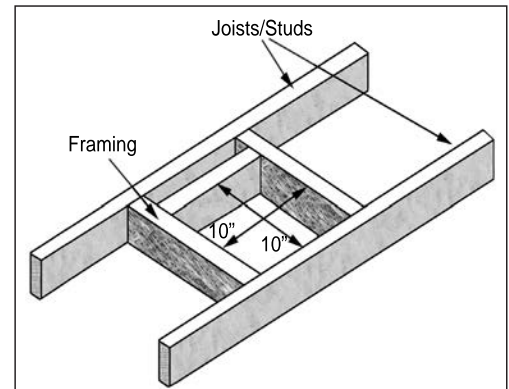

Figure 31. Vent Framing For Wall or Ceiling
A **10" (254 mm) x 10" (254 mm)** frame (see Figure 31) will assure the proper support and spacing for the vent pipe as it passes through the wall. Installations in Canada require that a wall thimble be used for passing through walls and ceilings. All sealing and vapour barriers must comply with local building codes.
Step 3. With the pipe in the correct position and attached to the fireplace, mark the wall for a 10" (25.4 cm) x 10" (25.4 cm) square hole (see Figure 31). The center of the hole should match the center line of the horizontal pipe. Cut and frame the hole in the exterior wall where the vent will be terminated. If the wall being penetrated is made of a non-combustible material (i.e. masonry or concrete) a 7" (17.8 cm) hole is acceptable.